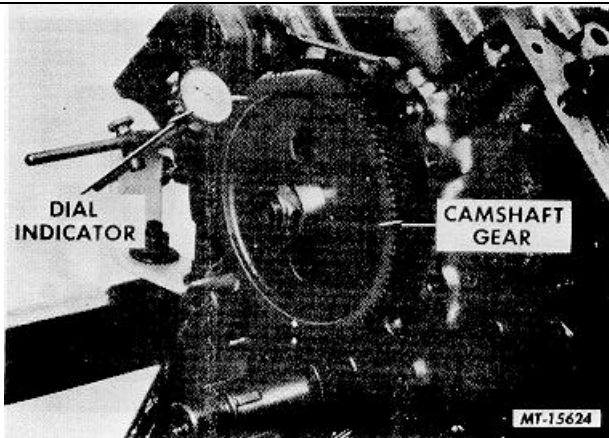

Fig. 71 Checking Camshaft End Play
64. Reposition dial indicator and check and record camshaft end play (Figure 71). If end play exceeds specified limits (See SPECIFICATIONS) camshaft thrust plate should be replaced.